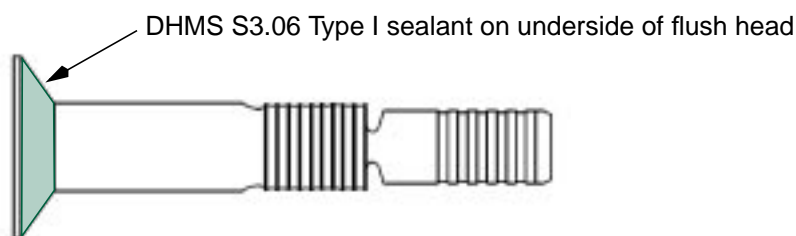

Figure 7 - Wet Installation of Flush Head Lockbolts
- 5.5.2 Except when wet installing lockbolts, prime all countersinks for flush head pins with F1 zinc chromate primer according to PPS 34.02 or F19 Type 2 epoxy-polyamide primer according to PPS 34.08. If the engineering drawing specifies wet installation, apply DHMS S3.06 Type I sealant to the underside of flush head pins as shown in Figure 7 (priming of the countersink is not required).